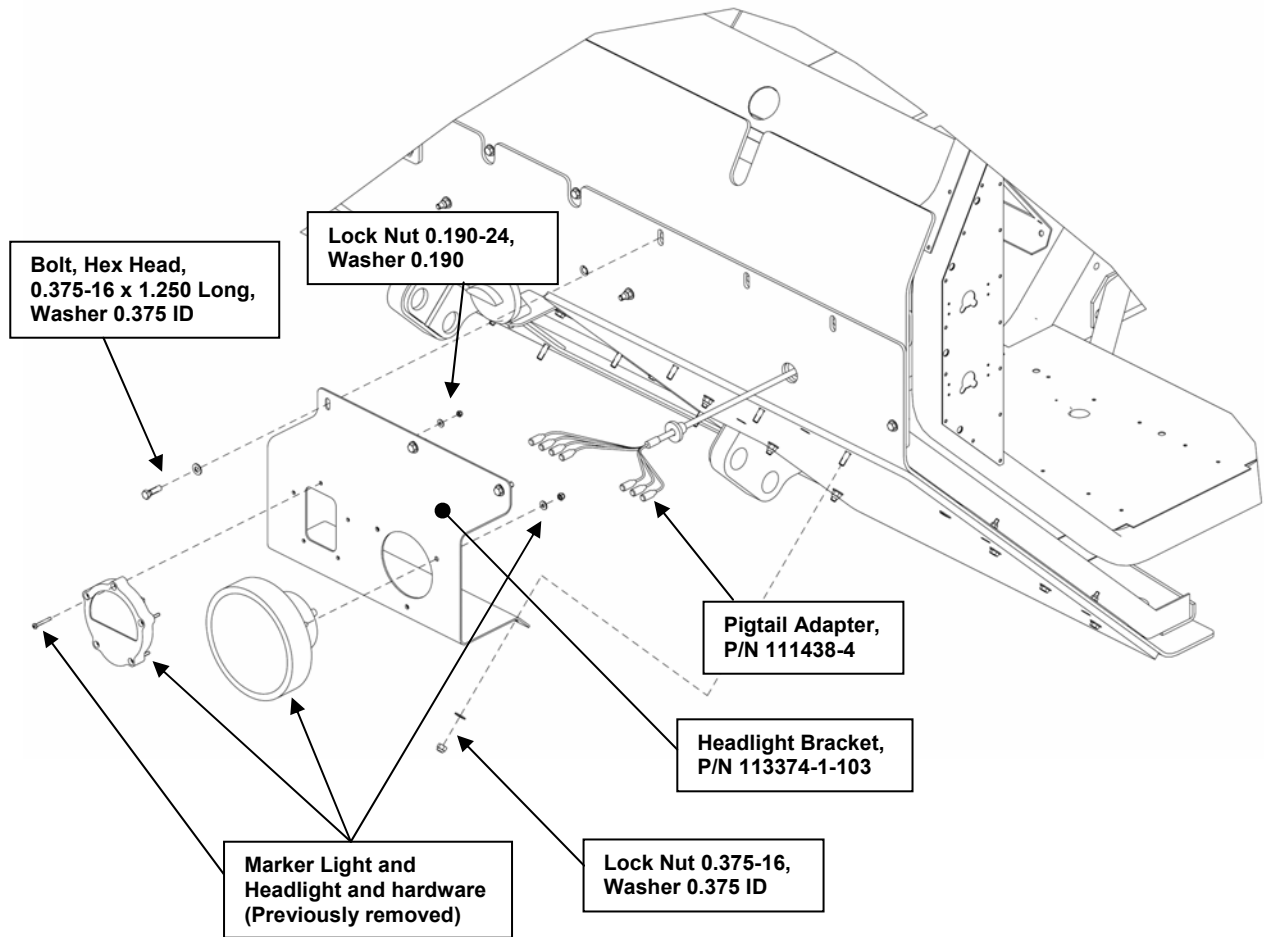
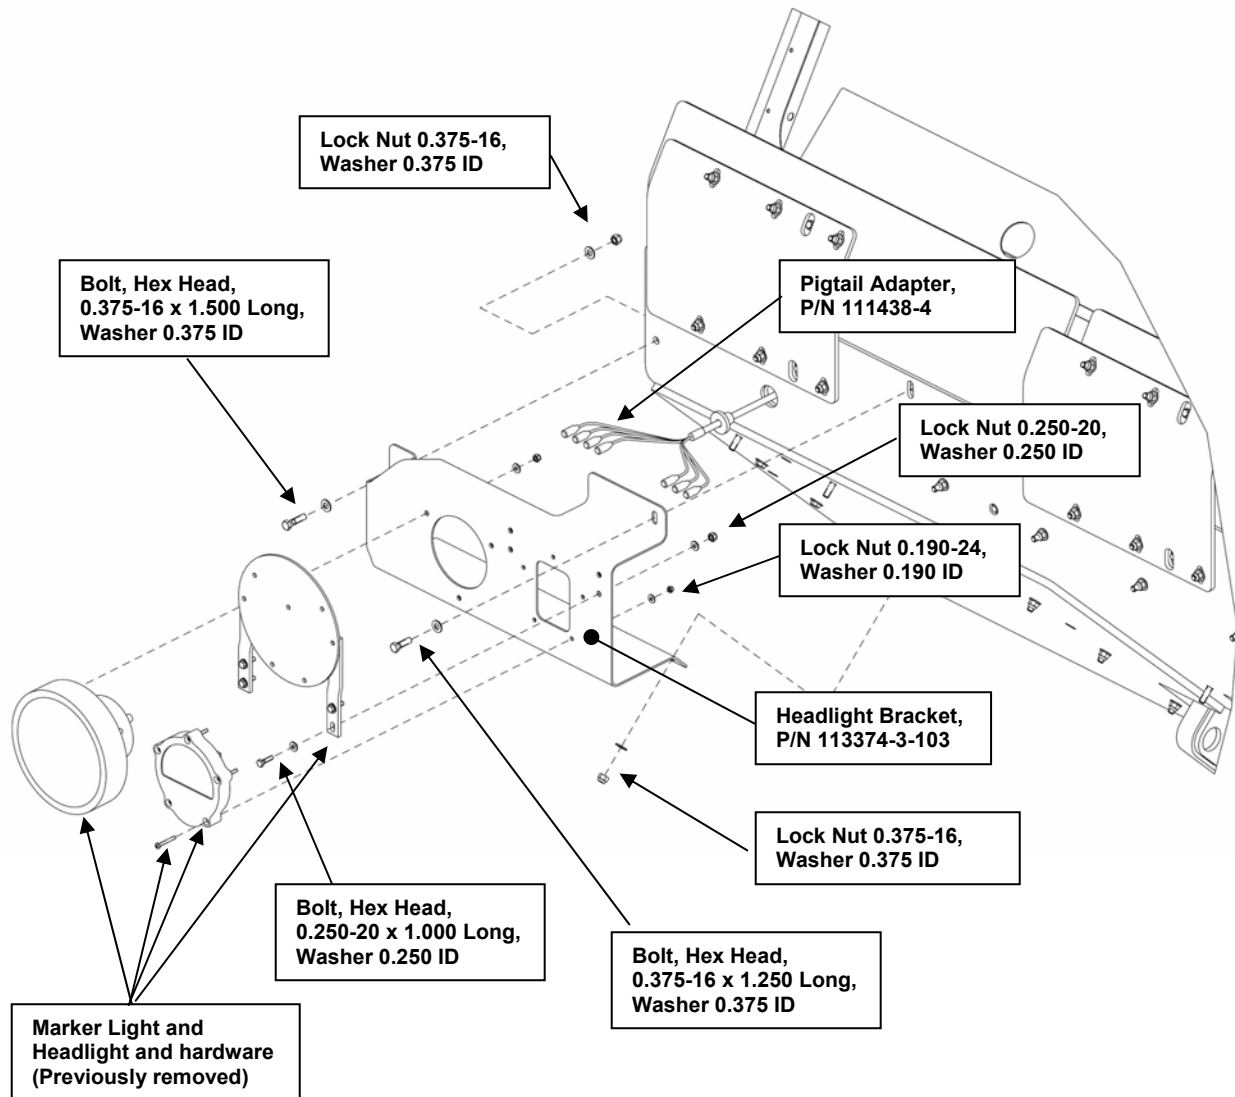
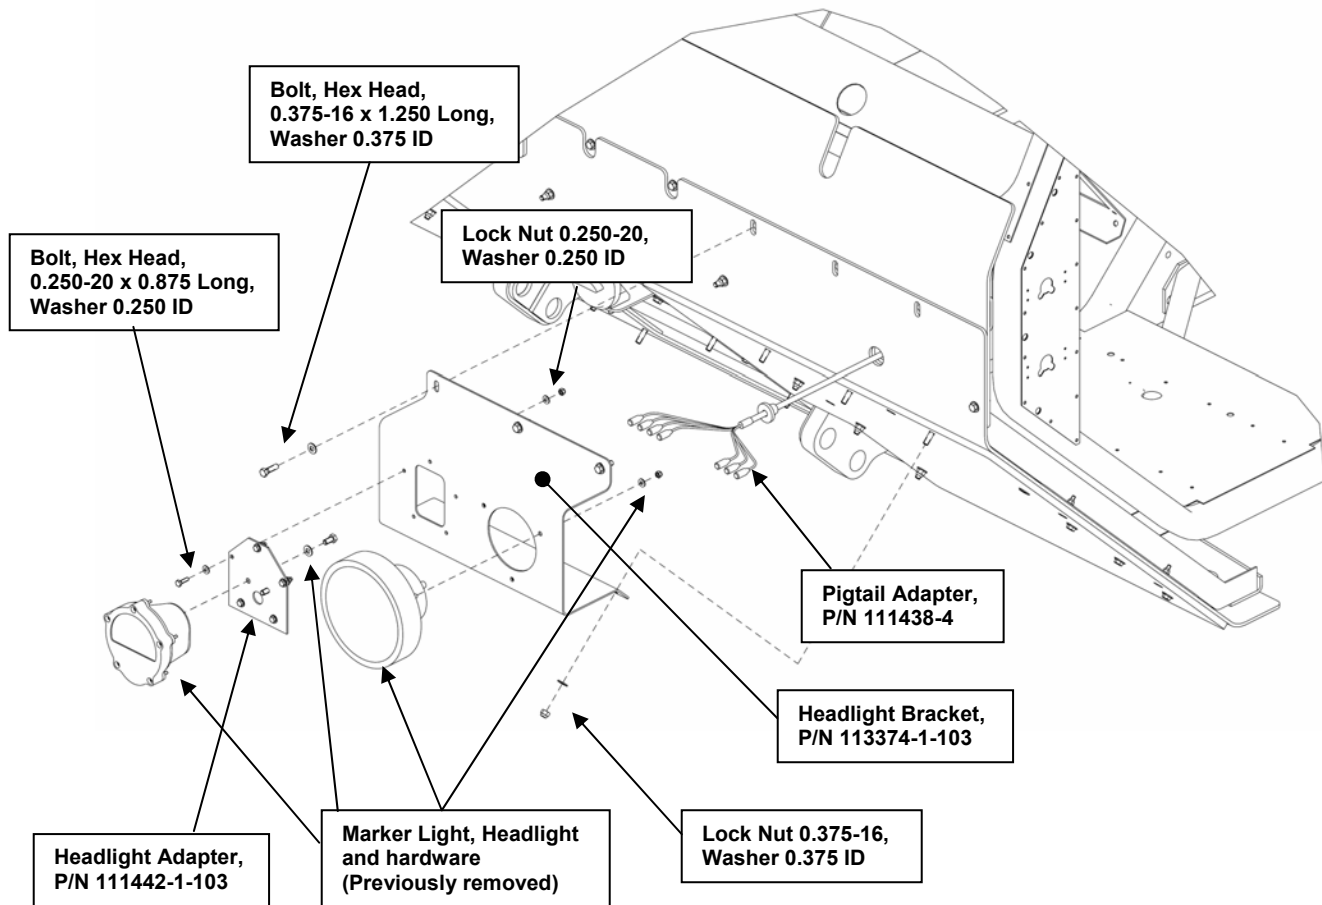
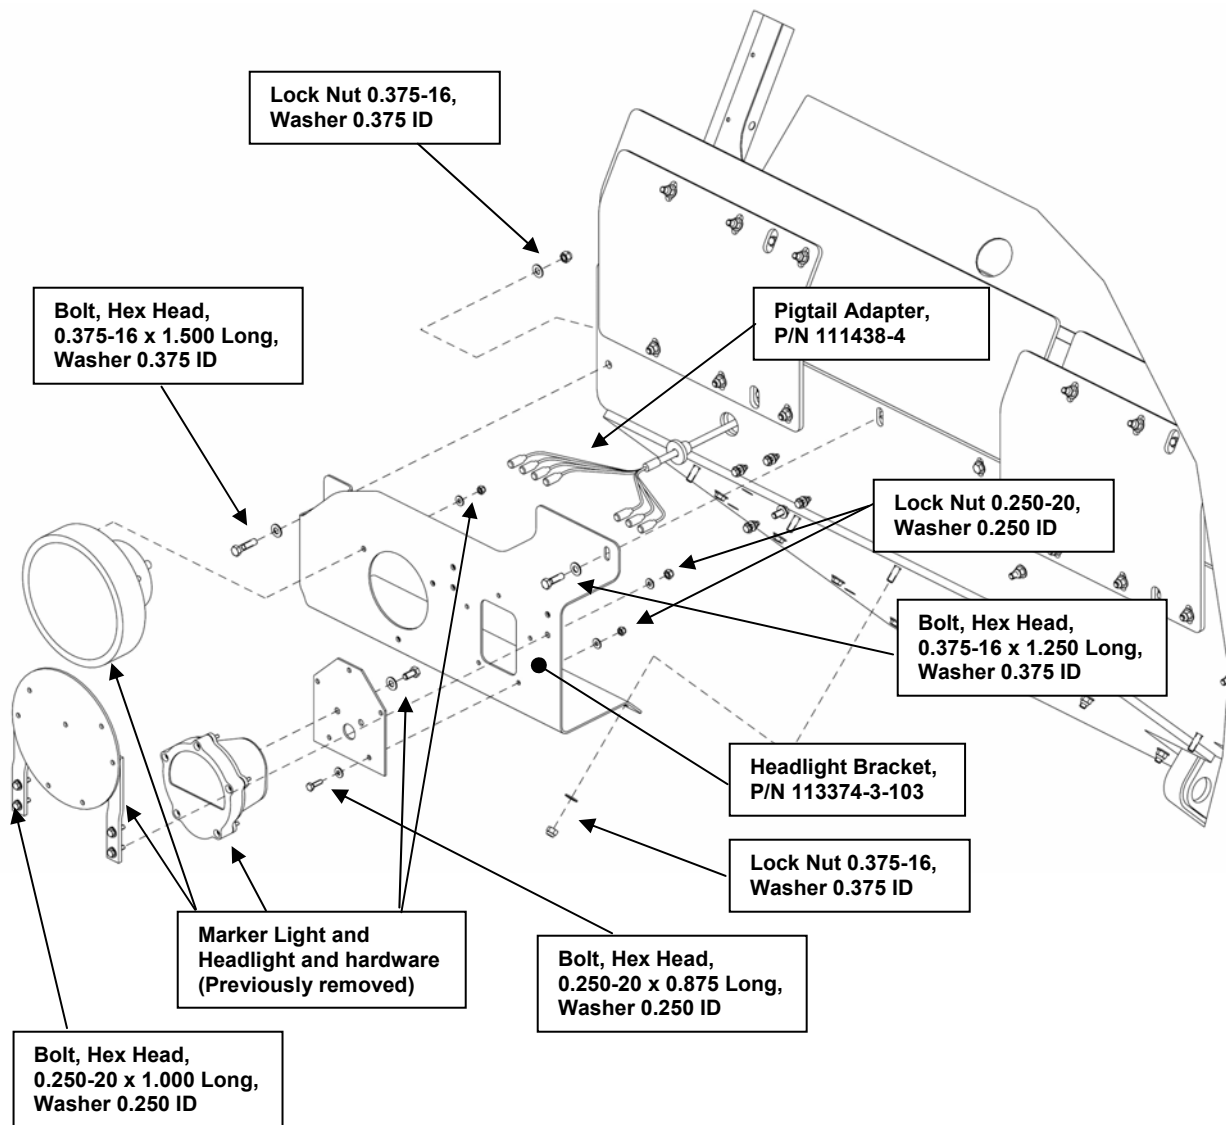

Figure 51. Left Headlight Assembly installation (Configuration A).
Figure 52. Right Headlight Assembly installation (Configuration A).
Figure 53. Left Headlight Assembly installation (Configuration B).
Figure 54. Right Headlight Assembly installation (Configuration B).
- o) In order to install the Headlight Assemblies, it is necessary to identify which type of Marker Light is used on the vehicle. Before being removed, the Marker Light was located just inboard of the Headlight. Inspect the Marker Light and determine whether an incandescent bulb (i.e., a common lamp bulb) is used inside the light. If an incandescent bulb is **NOT** found, use Configuration A as shown in Figure 51 and Figure 52, and install the Headlight Assemblies using Steps (p) through (z). If an incandescent bulb **IS** found, use Configuration B as shown in Figure 53 and Figure 54, and install using Steps (aa) through (mm).
- p) Attach the Headlight Bracket (P/N 113374-1-103) on the left side of the vehicle using the hardware, as shown in Figure 51.
- q) Route the Pigtail Adapter (P/N 111438-4) through the hole in the armor and cab, as shown in Figure 51. Insert the rubber grommet into the hole located at the center of the Light Cover (P/N 113379-1-103) that was installed in Step (f). Connect the corresponding wire leads located inside the cab.
- r) Attach the Marker Light to the Headlight Bracket using the hardware shown in Figure 51.
- u) Attach the Headlight Bracket (P/N 113374-3-103) on the right side of the vehicle using the hardware shown in Figure 52.
- v) Route the Pigtail Adapter (P/N 111438-4) through the hole in the armor and cab as shown in Figure 52. Insert the rubber grommet into the hole located at the center of the Light Cover (P/N 113379-1-103) that was installed in Step (f). Connect the corresponding wire leads located inside the cab.
- w) Attach the Marker Light to the Headlight Bracket using the hardware shown in Figure 52.
- z) Attach the previously removed Weight Marker to the Headlight Bracket using the hardware shown in Figure 52.
- aa) Attach the Headlight Bracket (P/N 113374-1-103) on the left side of the vehicle using the hardware shown in Figure 53.
- bb) Route the Pigtail Adapter (P/N 111438-4) through the hole in the armor and cab as shown in Figure 53. Insert the rubber grommet into the hole located at the center of the Light Cover (P/N 113379-1-103) that was installed in Step (f). Connect the corresponding wire leads located inside the cab.
- cc) Attach the Marker Light to the Headlight Adapter (P/N 111442-1-103) using the hardware shown in Figure 53.
- dd) Install the Headlight Adapter with the Marker Light on the Headlight Bracket (P/N 113374-1-103) using the hardware shown in Figure 53.
- gg) Attach the Headlight Bracket (P/N 113374-3-103) on the right side of the vehicle using the hardware shown in Figure 54.
- hh) Route the Pigtail Adapter (P/N 111438-4) through the hole in the armor and cab as shown in Figure 54. Insert the rubber grommet into the hole located at the center of the Headlight Cover (P/N 113379-1-103) that was installed in Step (f). Connect the corresponding wire leads located inside the cab.
- ii) Attach the Marker Light to the Headlight Adapter (P/N 111442-1-103) using the hardware shown in Figure 54.
- jj) Install the Headlight Adapter with the Marker Light on the Headlight Bracket (P/N 113374-1-103) using the hardware shown in Figure 54.
- mm) Attach the previously removed Weight Marker to the Headlight Bracket using the hardware shown in Figure 54.